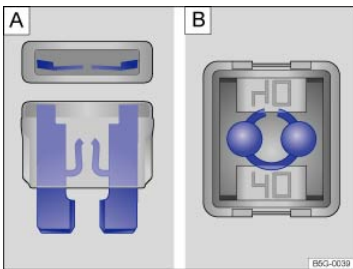

Fig. 164 Blown fuse: : Blade fuse. : JCASE® fuse.
- *For blade fuses (ATO®, MINI®)*: Remove the fuse and shine a flashlight on it. This makes it easier to tell if the fuse has blown. A blown blade fuse has metal strips that have burned through, which you can see through the transparent housing from above and from the side ⇒ *Fig. 164 A* .
- *For cartridge fuses (JCASE®)*: Shine a flashlight on the fuse. This makes it easier to tell if the fuse has blown. A blown cartridge fuse has metal strips that have burned through, which you can see through the transparent housing from above ⇒ *Fig. 164 B* .